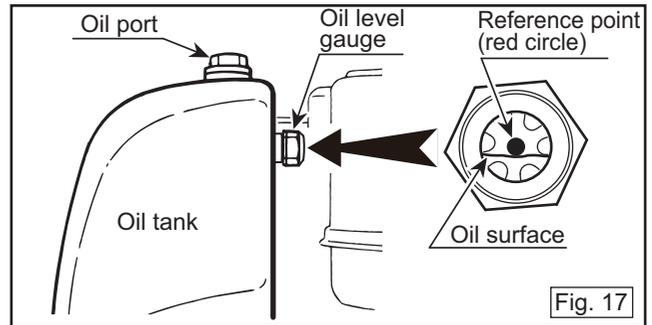

Fig. 17
3. Check that the hydraulic oil is the specified amount in the oil tank and its conditions (cloudy or emulsifying). If the hydraulic oil is cloudy, it is air entrainment in the variable pump. Therefore, retighten the pipes and add the hydraulic oil until the specified amount. If the hydraulic oil is emulsified, the water is mixed with the hydraulic oil. Therefore, replace it with new one. (Fig.17)